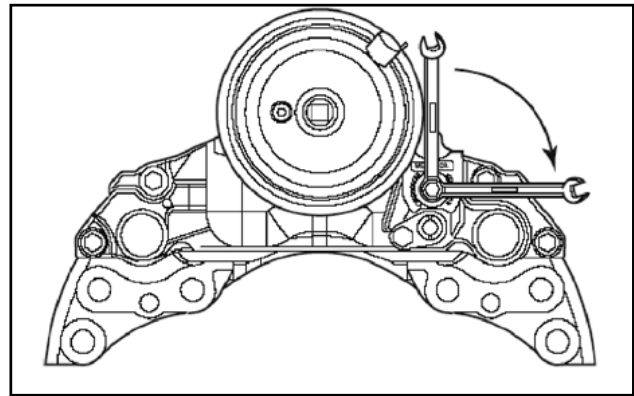

Figure 25
- De-adjust the brake 1/4-turn with a box end wrench. If the brake does not de-adjust, the adjuster mechanism is not functioning properly and may need replacement. (See **Figure 25**.)